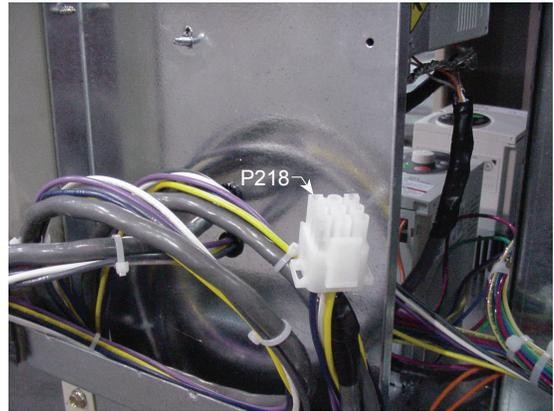

FIGURE 6
3. Locate the connector P218 wiring harness in the PEB/PEV. **See Figure 6.** Route harness into the return air of the rooftop unit near J218. **See Figure 2 and 4.** These harnesses will be connected after the PEB/PEV is attached to rooftop unit. **Refer to wiring diagrams on Pages 8 thru 9.**